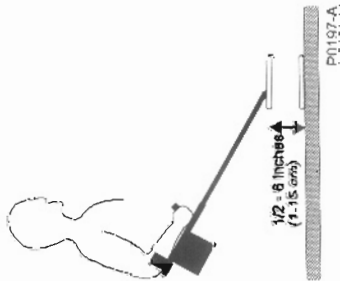

Figure 15 - Raising and Lowering the Search Coil
i. Move the coil up and down near the ground surface. This allows the **Automatic Ground Balance** feature to set the balance. Keep 'pumping' the coil until there is no change in the audio signal accompanying the movement (see Figure 15).